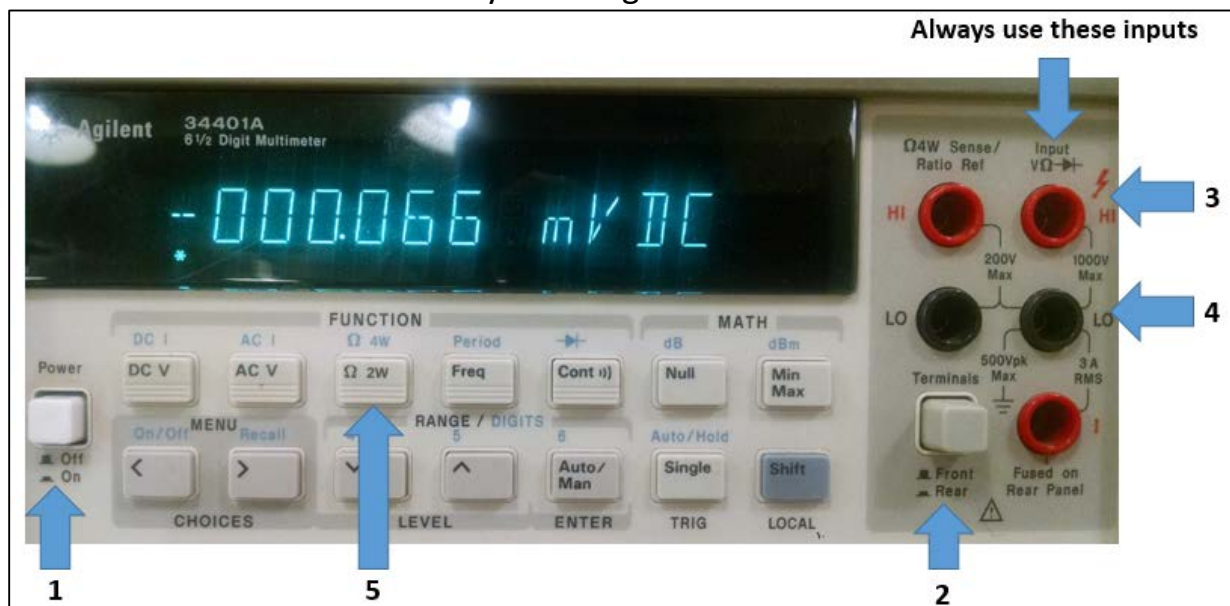

Fig. 2 – Agilent digital multimeter with enumerated parts.
2. Turn on the DC power supply (Fig.1 – 1) and the DMM (Fig.2 – 1). Make sure the Terminals button on the DMM (Fig.2 – 2) is set to Front.